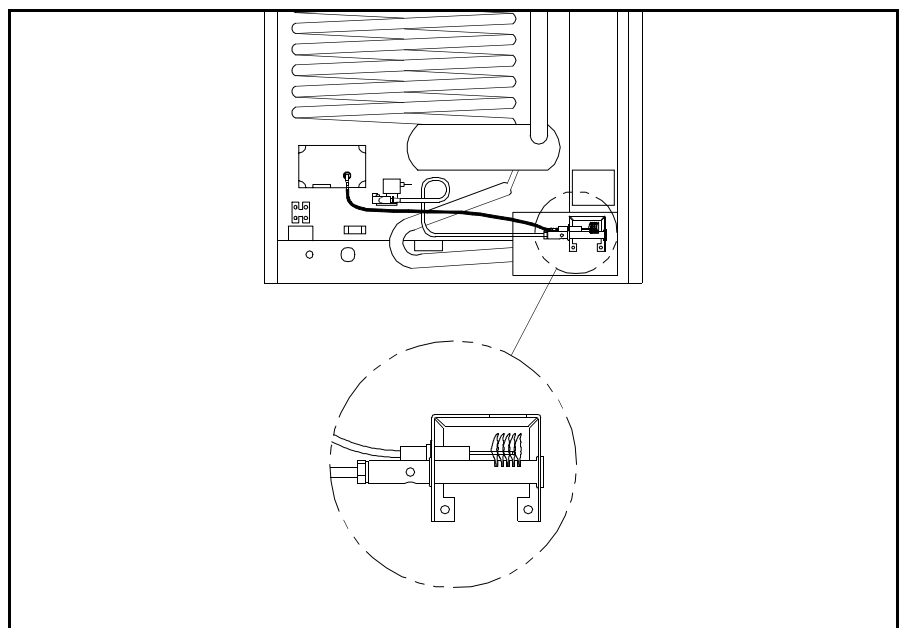

Figure 4.40 Burner Flame Check
25. If the flame is burning (Figure 4.40) but the red Check Light is on while the refrigerator is operating properly: